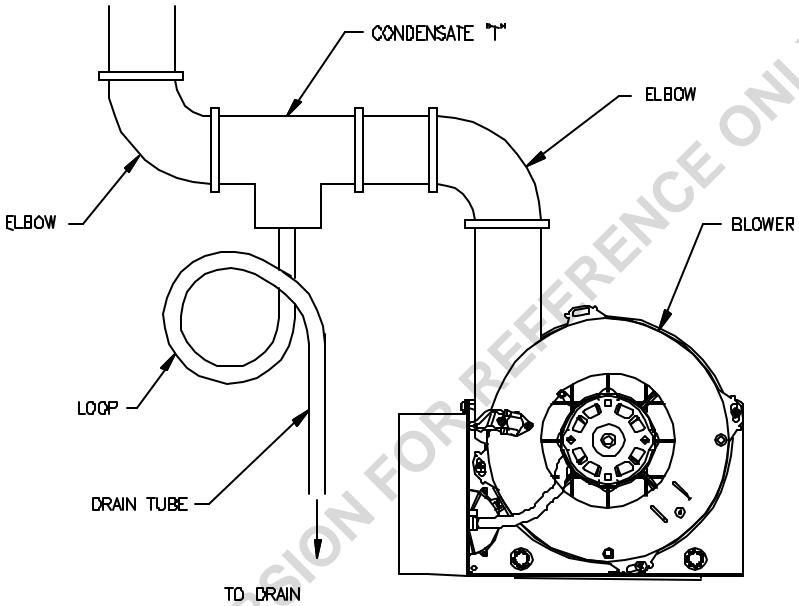

Figure 1
3. In order to prevent condensate from draining back into the blower (vertical or horizontal runs), a drain tee and condensate trap can be installed in the horizontal vent as close as practical to the blower vent connection (see Figure 1). The condensate disposal tube should be installed to drain any accumulated condensate away from the water heater and to a suitable drain. The drain tee and condensate hose are not available from Bradford White, but should be available through your local distributor.